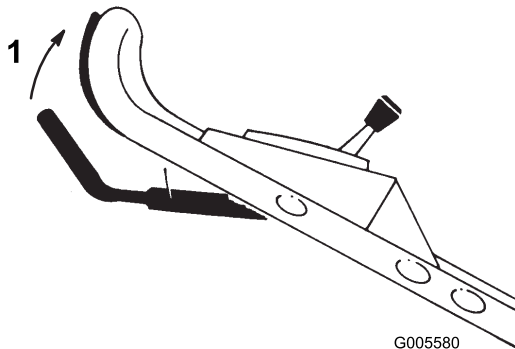

Figure 13
2. Squeeze the control bar against the handle to drive (Figure 13).
You can vary the ground speed by increasing or decreasing distance between control bar and handle (Figure 13) as follows: